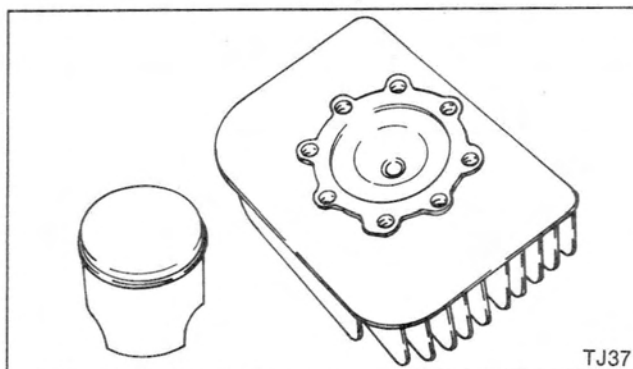

Figure 37
2. Since the formation of carbon is a product of two-stroke operation, decarbonization at regular intervals is essential. Removing the cylinder head and scraping the carbon from piston crown and cylinder head should be done at every tune-up or every 40 hours of operation. (Figure 37) During every other decarbonization, the cylinder should be removed and the exhaust port decarbonized.